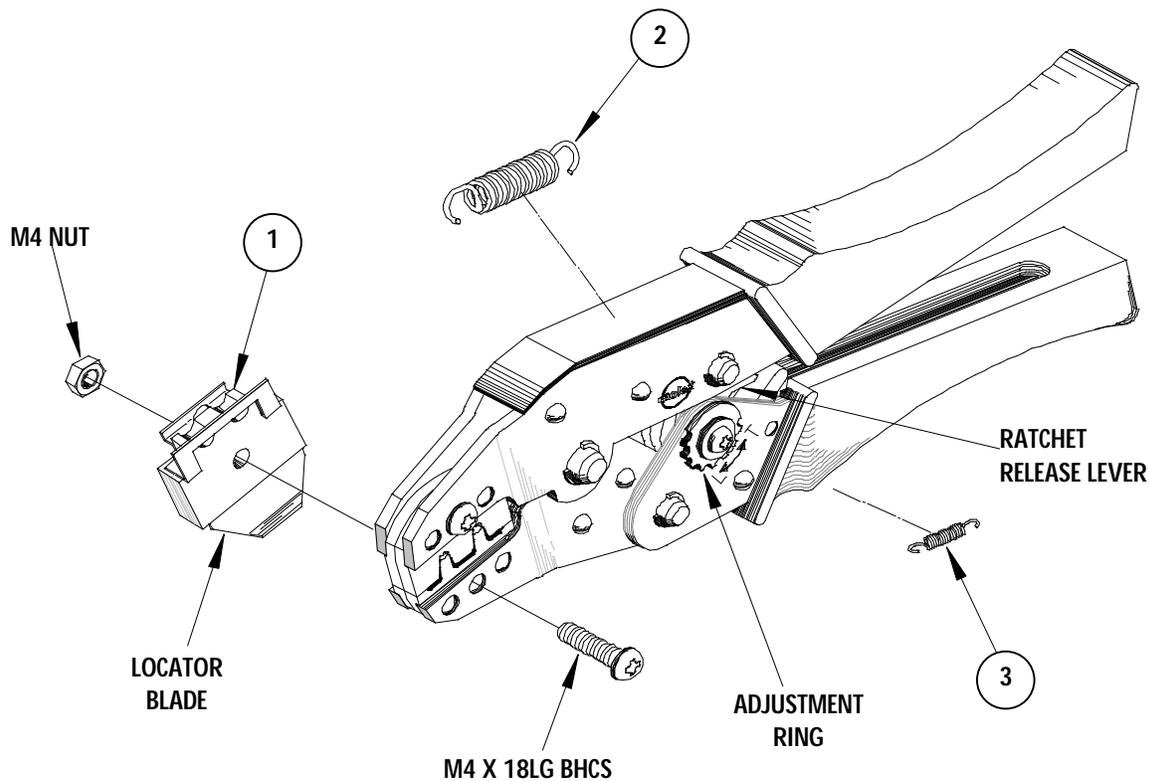

Figure 4
Should this tool ever become stuck or jammed in a partially closed position, **Do Not force the handles open or closed.** The tool will open easily by lifting the ratchet release lever (See Figure 4).
4. Close the tool until the ratchet releases, (See Figure 4).
How to Adjust Tool Crimp Force (See Figure 4)